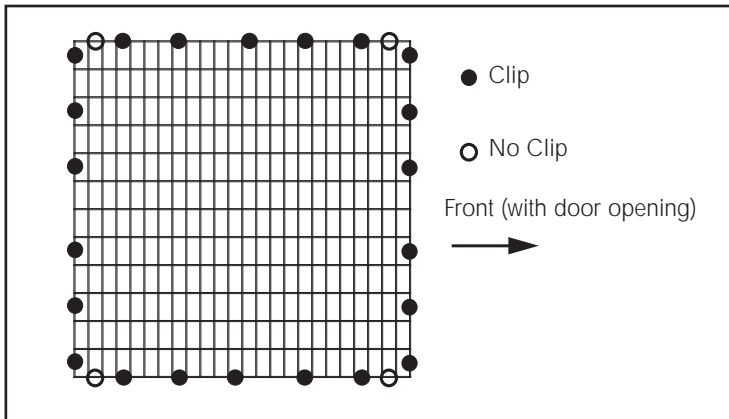

Figure 6
7. Place the top panel on top of the side panels. Fasten clips at each ● shown in Figures 6. Do not put clips where the ○ appears.
8. Install a frame leg at each ○ shown in Figure 6.